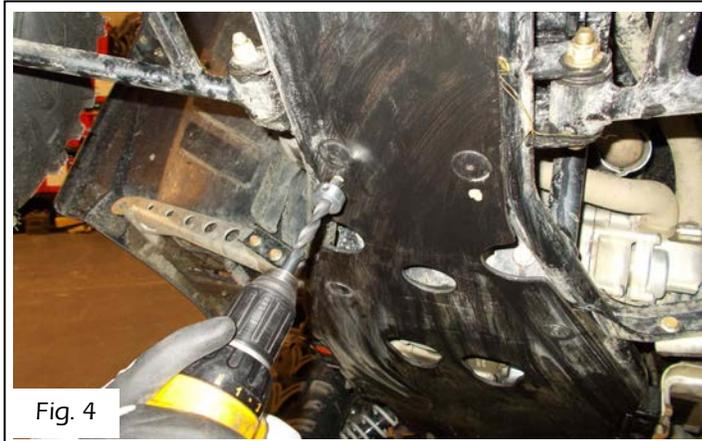

Fig. 4
- 4) Drill holes using the drilling tool provided for this purpose (product Kimpex no. 373920) (see Figure 4). If you don't have the tool, remove the skid plates and drill with a ½ inch drill bit. Reinstall the skid plates afterwards.